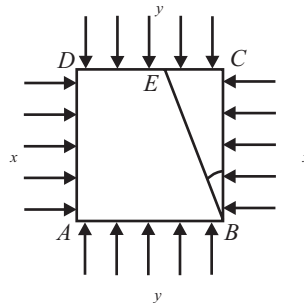

Fig 15.9
Q. 9: Obtain the expression for normal and tangential stresses on a plane BE inclined at an angle θ with BC subjected to compound stresses as shown in fig 15.9.